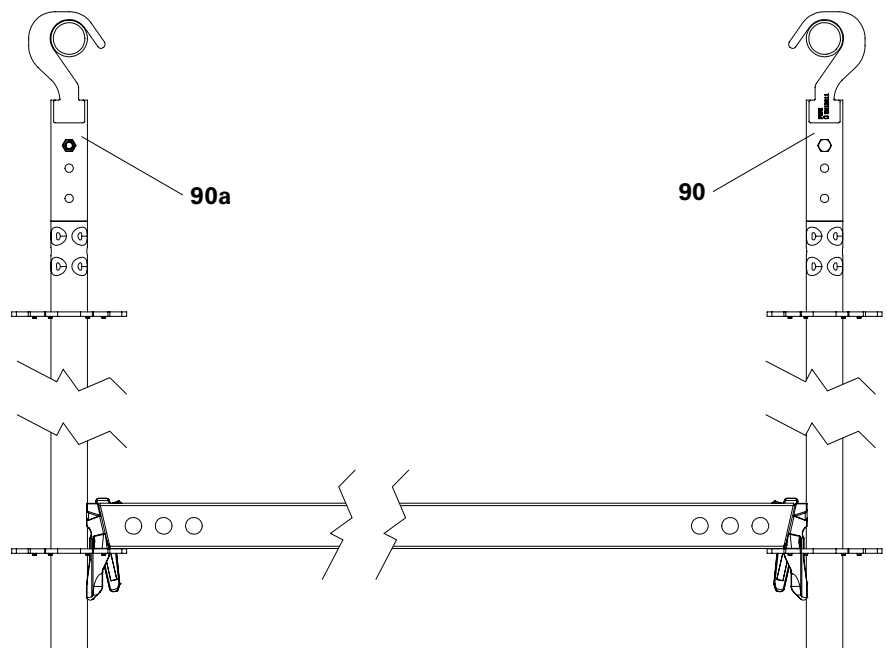

Fig. A11.02
3. Install the opposite Adapter UEH (**90a**) rotated through 180°. (Fig. A11.02)